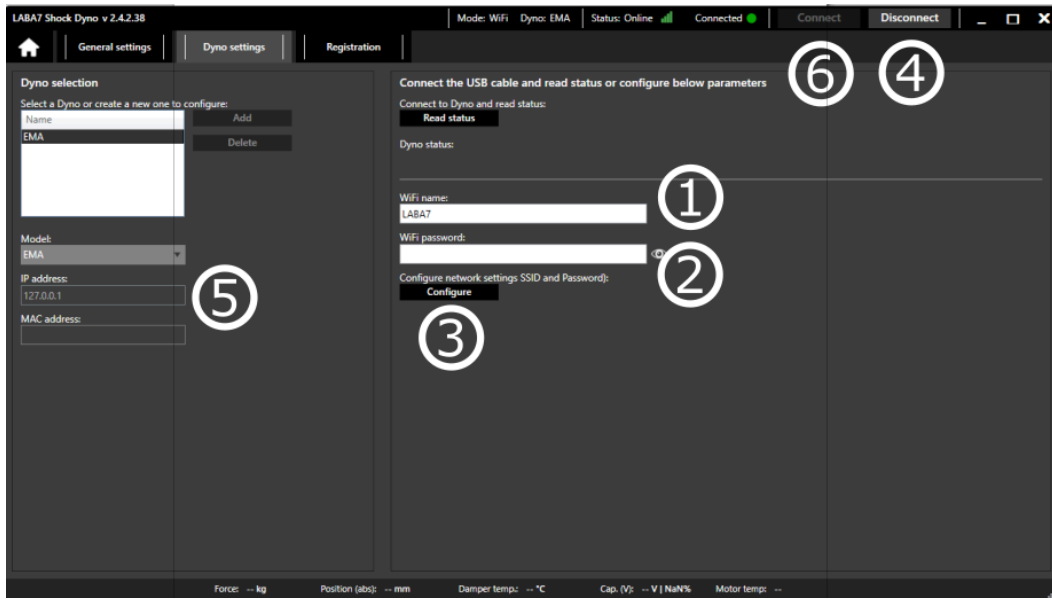

Figure 13
3. Enter Wi-Fi name (Figure 13 – Step 1).
4. Enter Wi-Fi password (Figure 13 – Step 2).
5. Click on Configure button (Figure 13 – Step 3).
6. Once you get notification about successful Wi-Fi connection, press **Disconnect** (Figure 13 – Step 4).
8. Change the IP address to the one which is now being showed in the screen of the device. (Figure 13 – Step 5).
9. Press **Connect** (Figure 13 – Step 6).